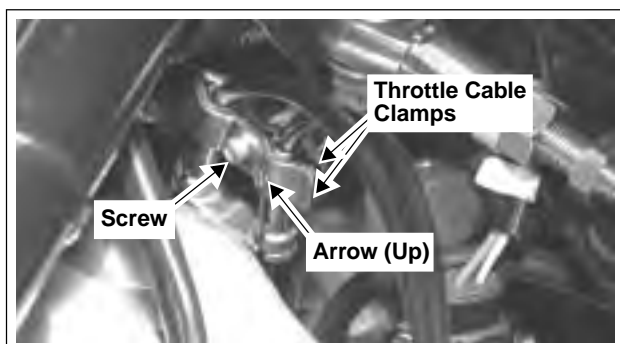
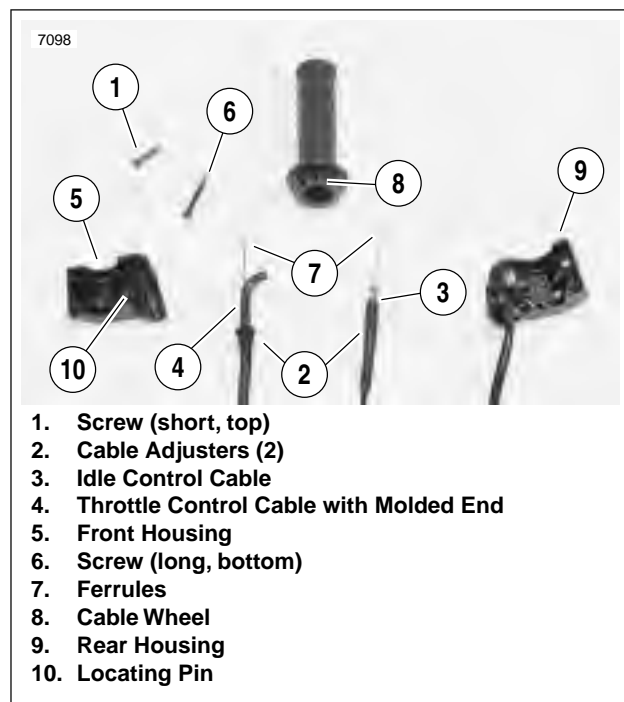

Figure 2-80. Throttle Cable Clamps
Figure 2-82. Cable Connections
2. See Figure 2-82. Remove two screws (1, 6) on front housing. Separate housings from handlebar.
3. Unhook ferrules (7) from cable wheel (8).
7. See Figure 2-80. Remove screw and throttle cable clamps from cables by throttle body.
1. See Figure 2-82. Place cable assemblies (3, 4) into housings (5, 9). Throttle control cable (4) has a molded fitting end and is positioned inside the front housing (5). Idle control cable (3) has a smaller fitting end and is positioned inside the rear housing (9).
3. Attach ferrules (7) to cable wheel (8). When properly assembled, notches for ferrules will be at 12 o'clock.
4. Position housings on right handlebar by engaging locating pin (10) on front housing with hole in handlebar. Attach housings with two screws (1, 6), installing longer screw on bottom. Tighten to 12-17 **in-lbs** (1-2 Nm).
6. See Figure 2-80. Attach throttle cable clamp to ferrules with screw (arrow on clamp points up).